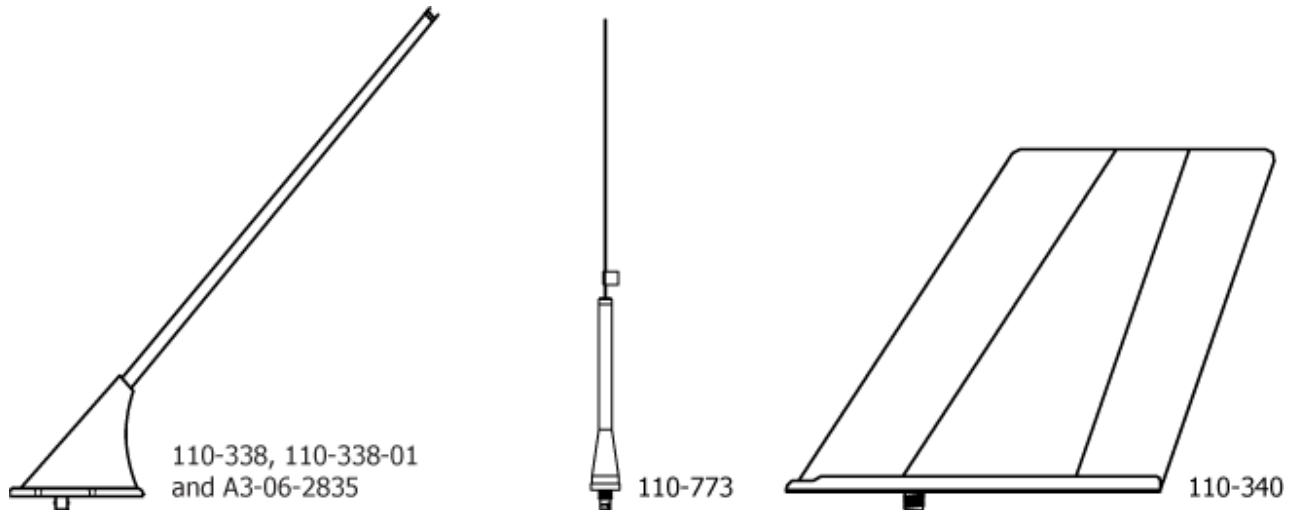

Figure 5 Antennas
- 5) There are 5 antennas that are used with the ARTEX ELT 1000 (see Figure 5). Selection of the proper antenna is dependent upon the application.